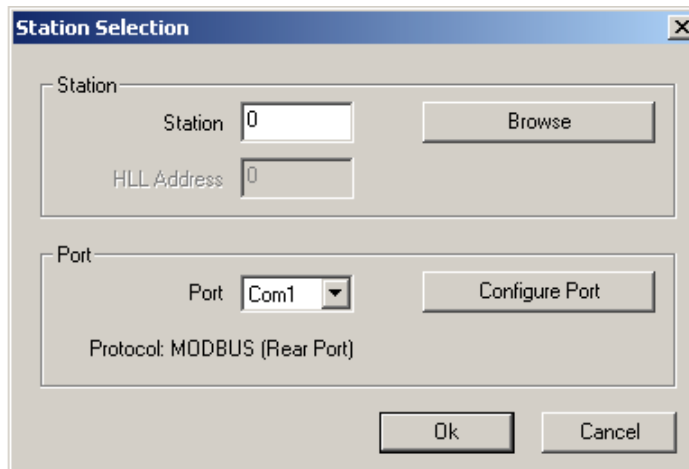

Figure 5-4 Station Selection dialog
3. Select the communication port to use for downloading the configuration from the drop down menu in the Station Selection dialog. See Figure 5-4.